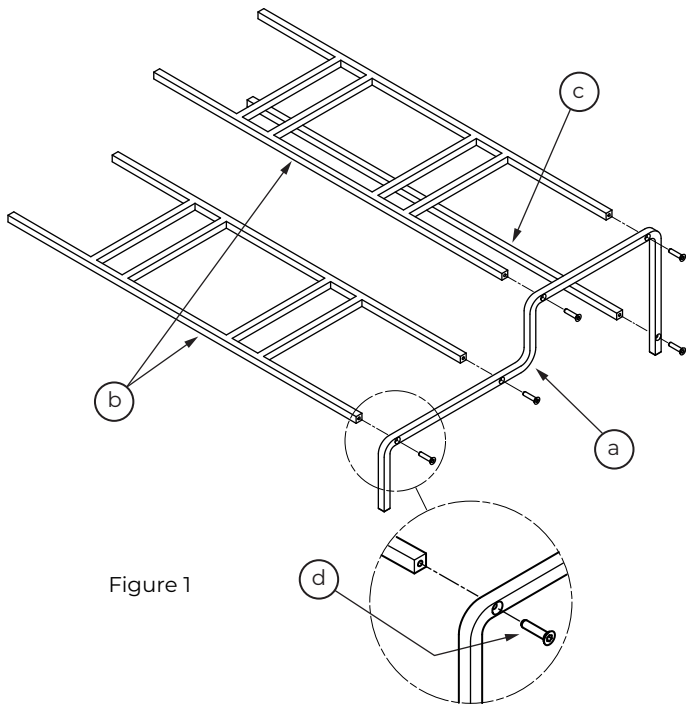

Figure 1
1. Attach the 2 horizontal frame assemblies and cross piece to a side frame using 5 of the Allen screws as shown in Figure 1 below. Do not fully tighten the screws yet.